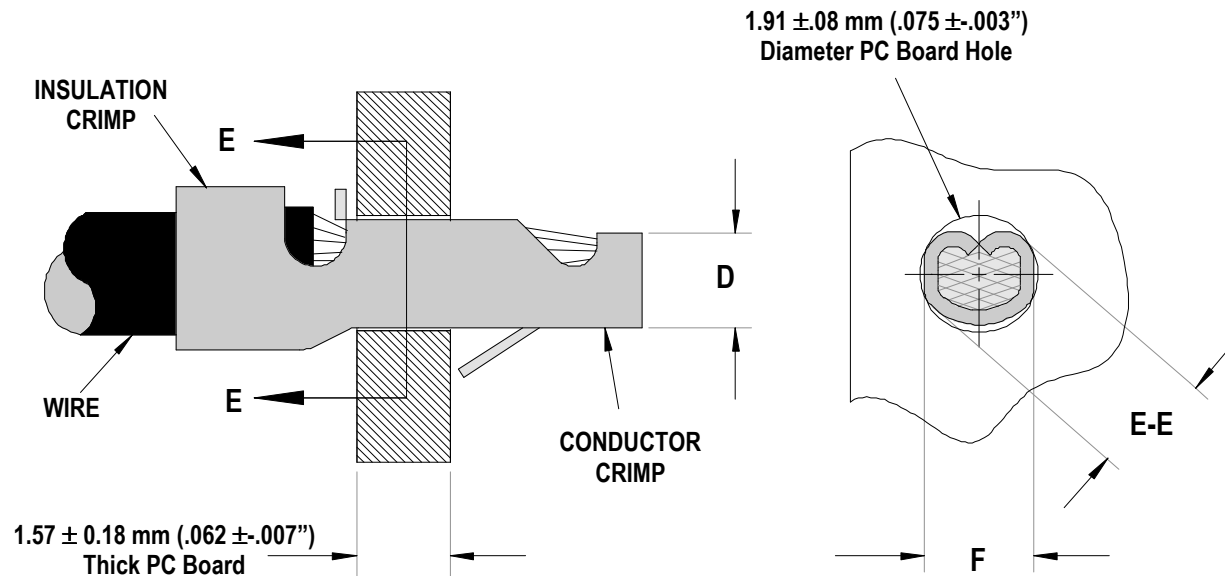

Figure 1
After crimping, the conductor profiles should measure the following (See Figure 1).
5. To achieve the conductor crimp height (D dimension in Figure 1) for 22 and 24ga wire, a 0.25mm (.010") thick shim is required if your crimp press is not equipped with adjustable shut height. This shim is not supplied with the applicator. The shim should be located between the Ram and the Conductor Punch. See Figure 2.